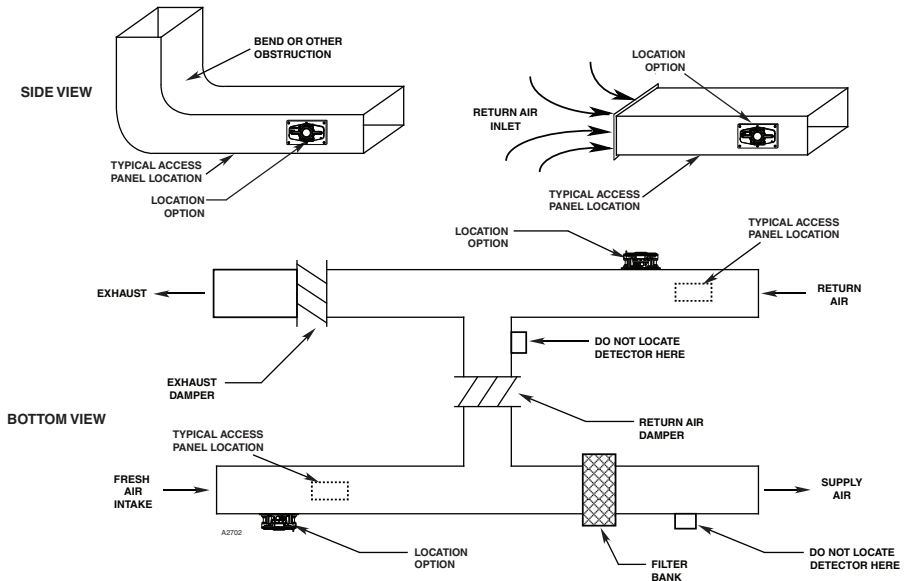

Figure 3—Q3013D Placement in duct
1. The Q3013D duct accessory should be installed in an easily accessible location approximately six duct widths from bends, duct openings, or deflection plates (see Figure 3). These locations provide fairly uniform, non-turbulent air flow. If no access panel is present at the desired mounting location, an access opening will need to be created above or adjacent to the installation point to facilitate attachment of the Q3013D to the duct wall.